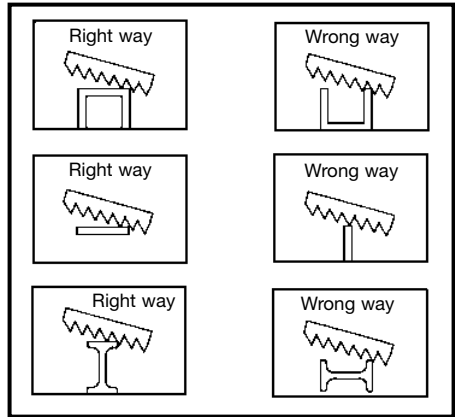

Fig. 6
8. Fig. 6 shows the proper cutting position for various shapes.